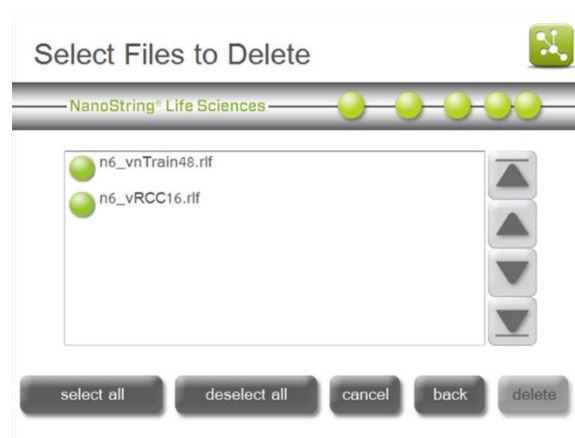

Figure 158: The 'Select Files to Delete' screen.
1. To cleanup Reporter Library Files, press **RLF** in the 'Disk Cleanup' screen. The 'Select Files to Delete' screen will appear (**Figure 158**).